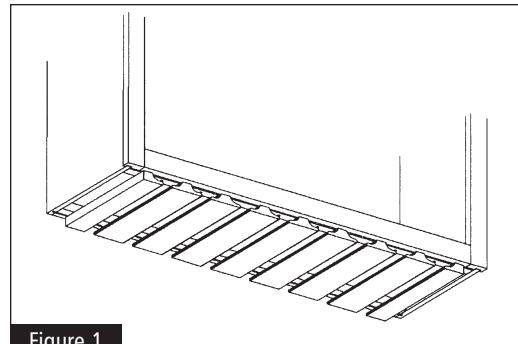

Figure 1
- 2 Using pre-drilled holes in mounting strips (four per strip), pilot drill 1/8-in diameter holes to a depth of 3/8-in and fasten to the bottom of the cabinet with (8) #8 x 1-in Phillips screws. See Figure 1.